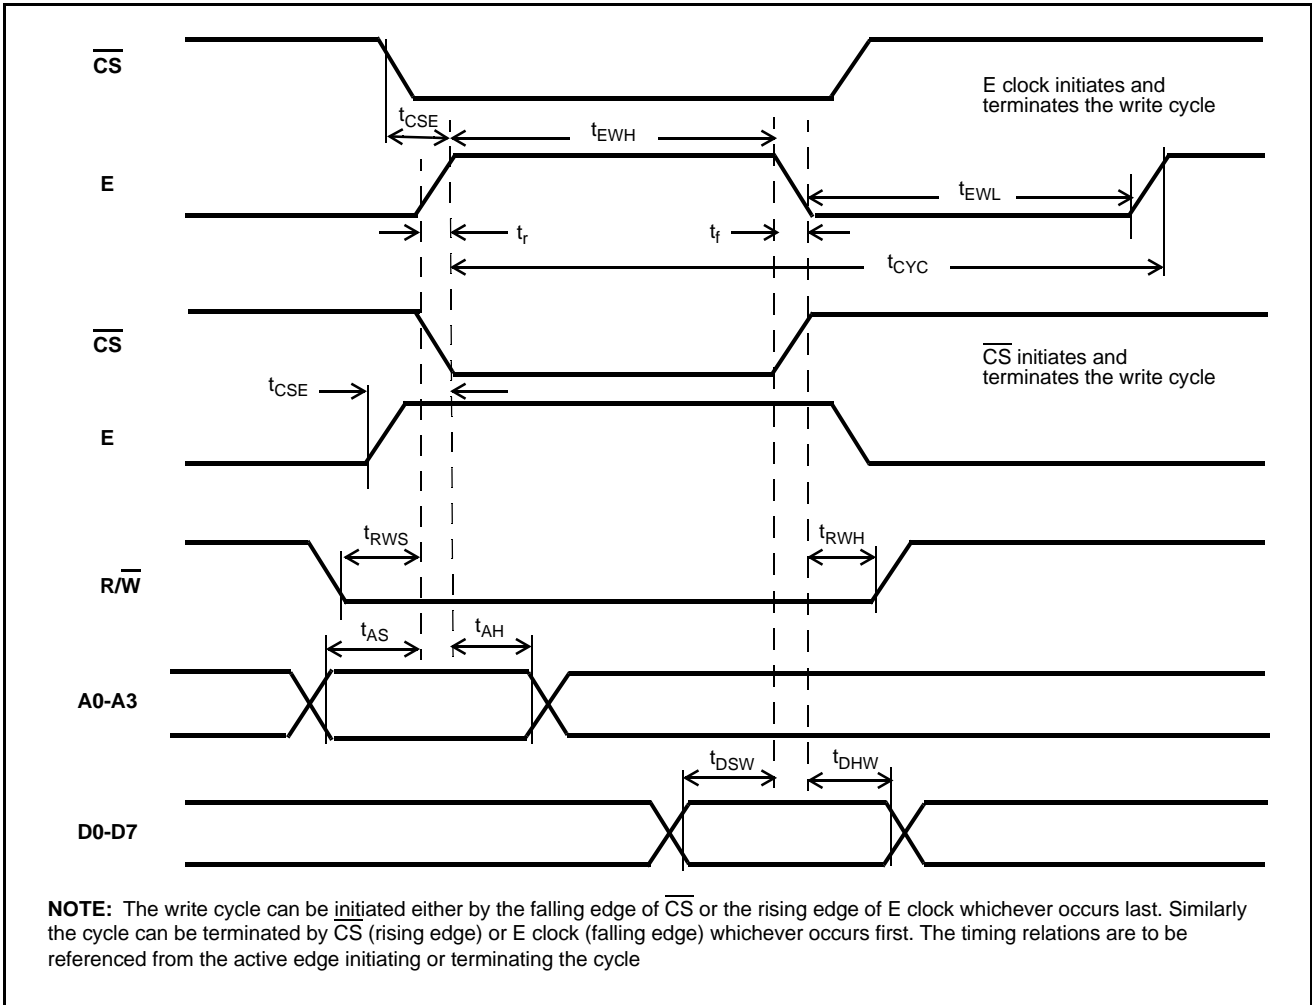

Figure 17 - Timing Information for MPU Write
* Outputs unloaded. Input pins 12 and 25 clocked at 2048 kHz. All other inputs at V_{SS}.**AC Electrical Characteristics† - Microprocessor Interface - (Figures 17 and 18)**Voltages are with respect to ground (V_{SS}) unless otherwise stated.